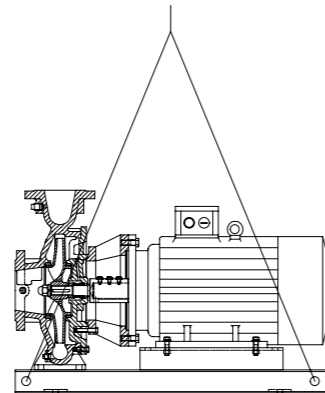

Fig.1
**ATTENTION!** To avoid any distortion, please lift the pump set as shown (Fig.1).